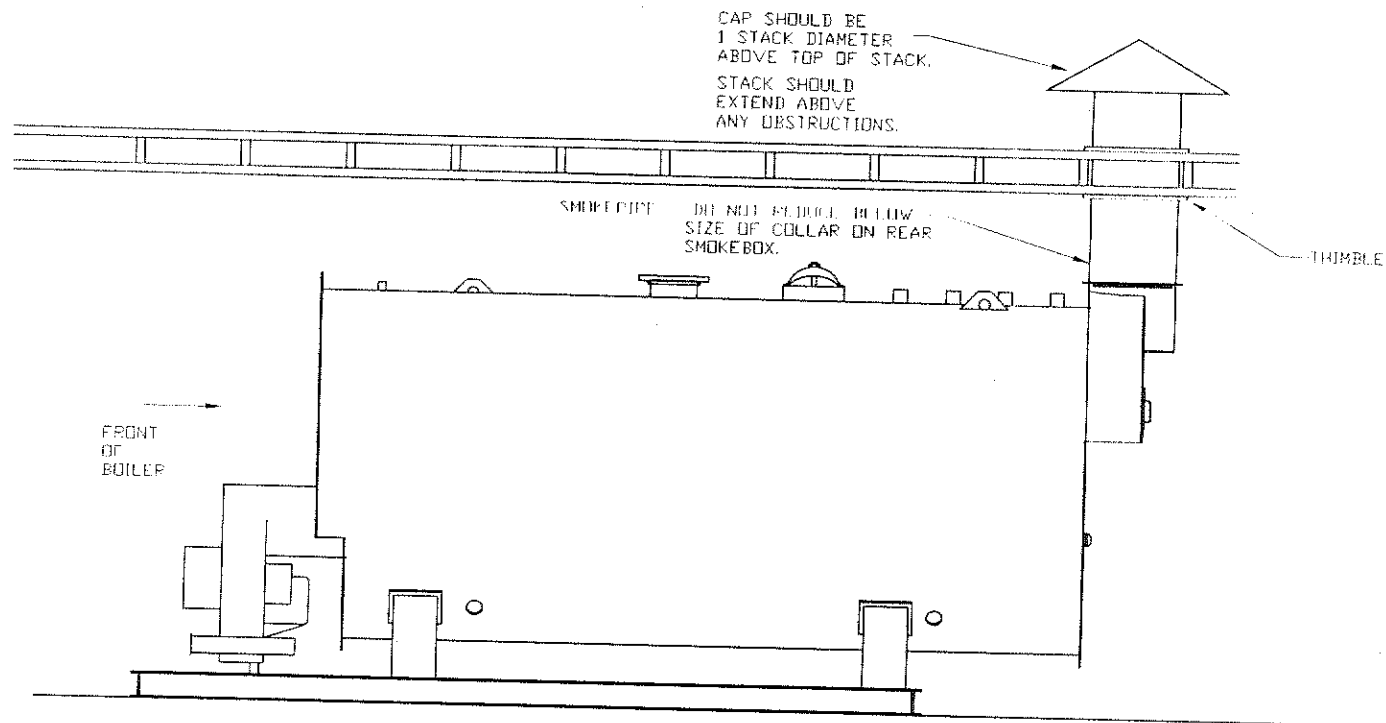

Figure 6
D. Any claims for damage or shortage in shipment must be filed against the carrier by the consignee. No claims for variances from, or shortage in orders, will be allowed by the manufacturer unless presented within thirty (30) days after receipt of goods.
- A. The Kewanee Classic III Scotch Boiler is designed for forced draft firing and may be used with a conventional natural draft stack or a stub vent (see Figure 6). Maximum weight of stack is 2,000 Lbs.